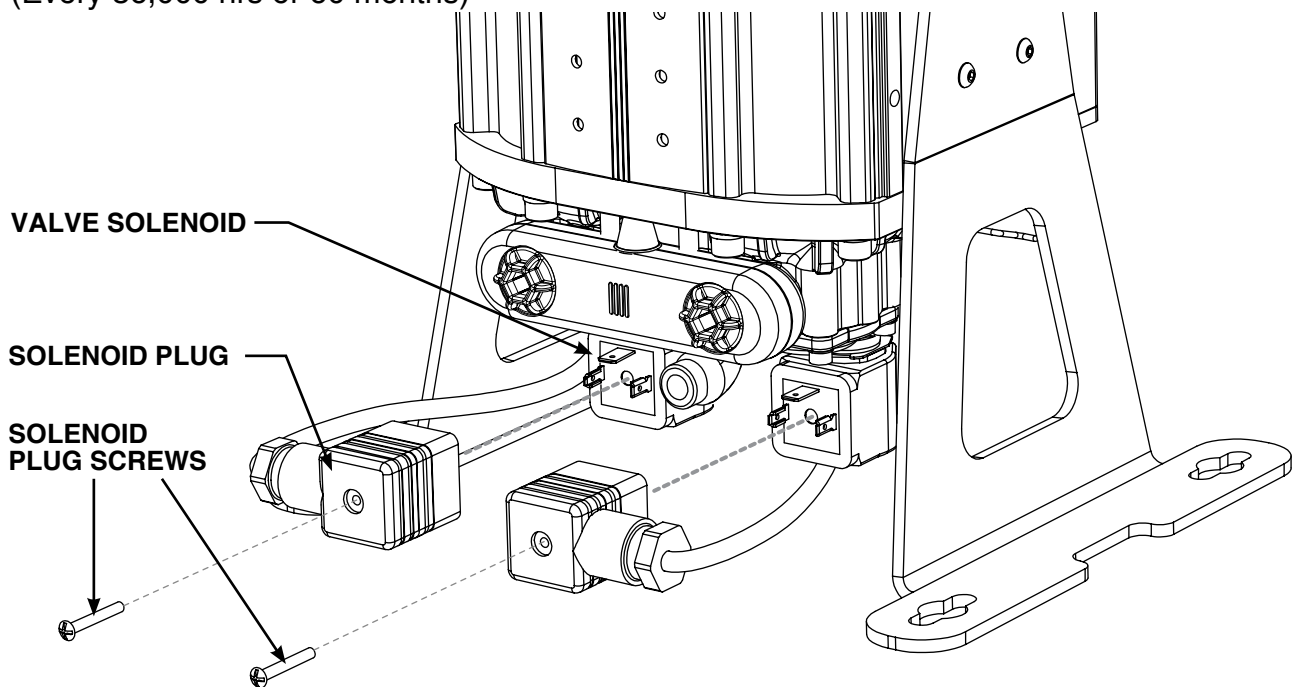

Figure 1.
2. Remove the valve solenoid plugs by removing the plug screws and pulling the plug free from the solenoid. (See Figure 1)